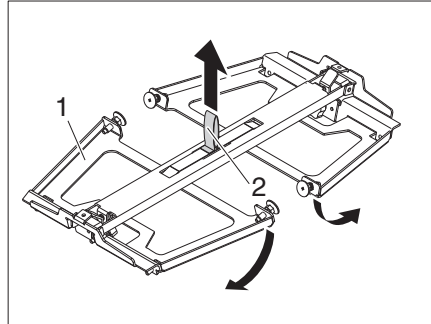

Fig. 62 Setting up the base frame
- Lift the base frame (Fig. 62,1) up at the strap (Fig. 62,2). The legs at both sides fold down.